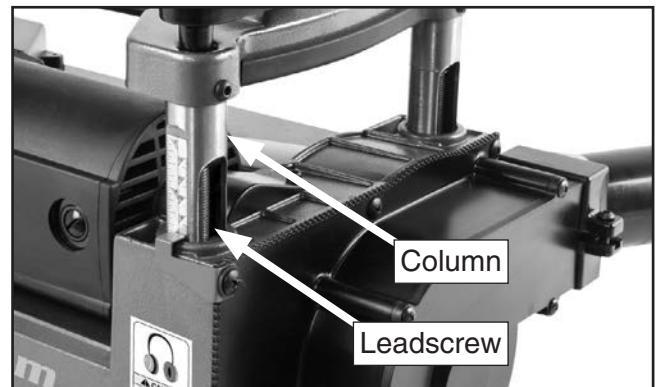

Figure 24. Location of cutterhead elevation leadscrews.
2. Vacuum chips and dust from leadscrews through open face of all four columns (see **Figure 24**).